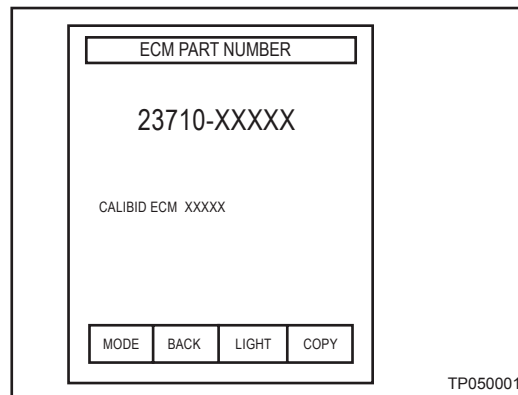

Figure 1
- Figure 1 is an example of the ECM Part Number printout.
3. Check the ECM Part Number on the printout (see Figure 1);